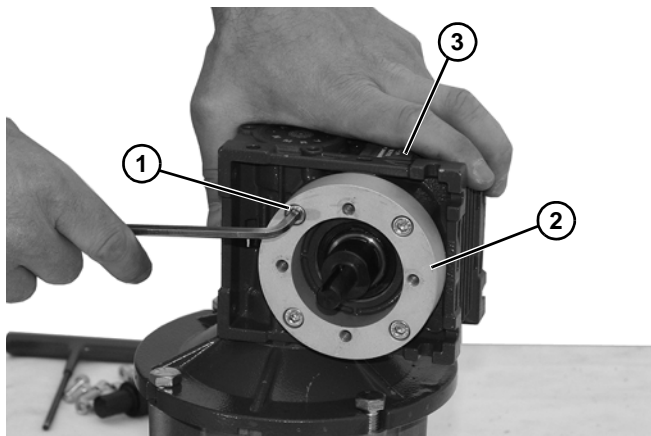

Figure 21
1. Loosen four (4) socket head screws (**Figure 21, item 1**) and detach spacer (**Figure 21, item 2**) from gear reducer (**Figure 21, item 3**).
10. Install spacer (**Figure 21, item 2**) onto gear reducer (**Figure 21, item 3**) with four (4) socket head screws (**Figure 21, item 1**).